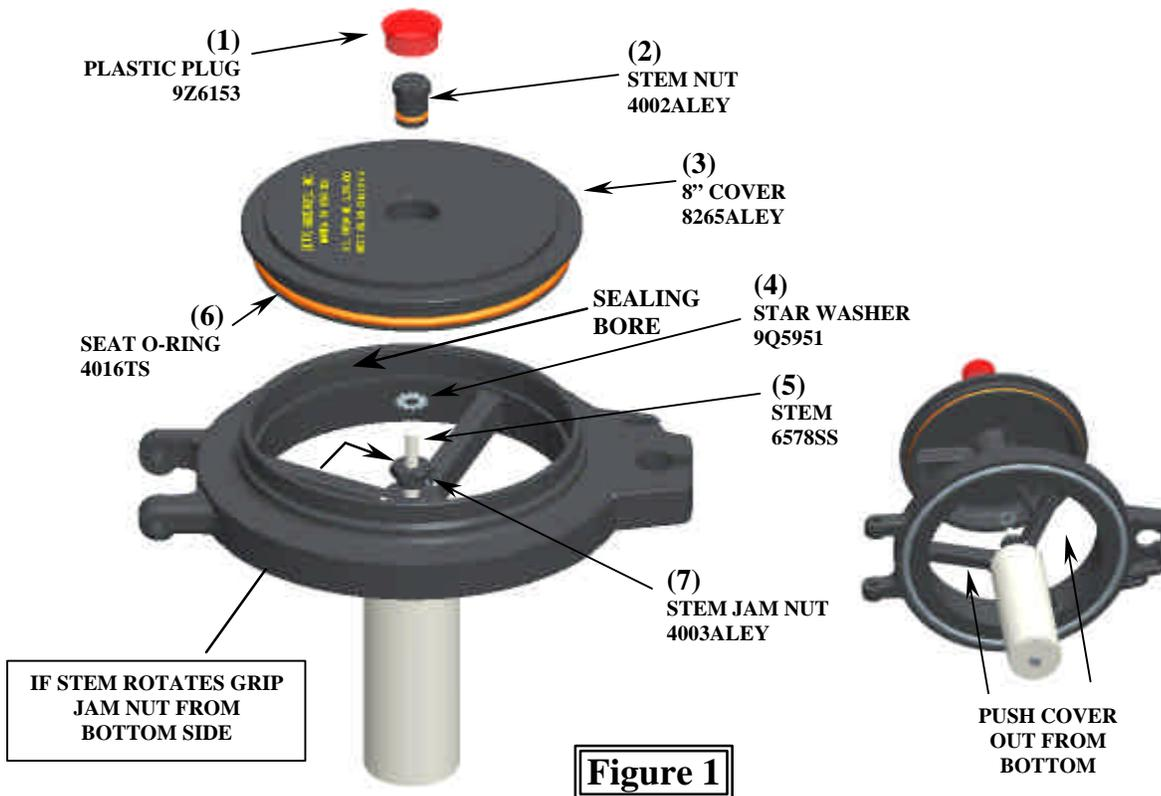

Figure 1
2. Remove red *Plastic Plug(1)* by prying from top of 8" *Cover(3)* (See figure 1).
4. Remove the 8" *Cover(3)* by pushing up from bottom as shown in figure 1 sub-view. Push evenly to prevent the 8" *Cover(3)* from binding in the PRV bore.